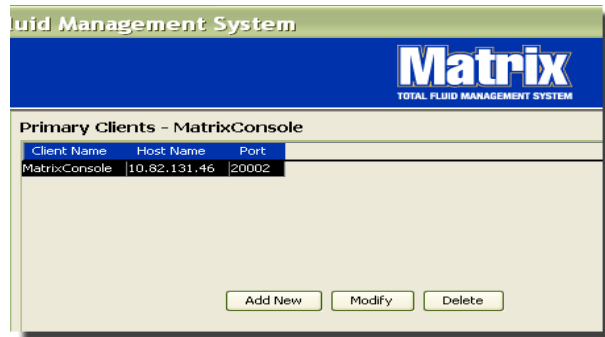

FIG. 91
- To add additional Primary Clients, select the Add New button (FIG. 91).